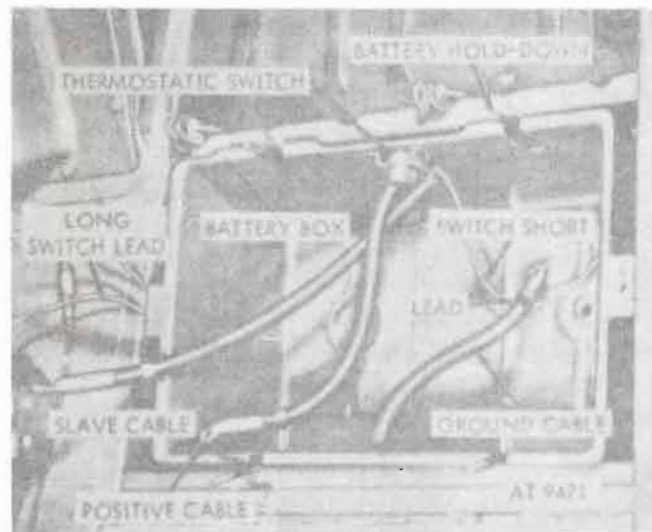
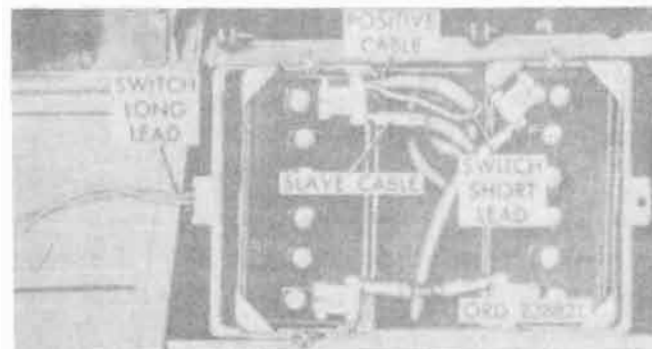

Figure 18-34. Battery box installed.
Figure 18-35. Batteries and cables installed.
(1) Position four battery holddown bolts in upward position.
(2) Insert ground cable through hole opposite thermostat of box assembly (fig. 18-34).
(3) Insert battery positive and slave cables (refer to paragraphs 18-10 through 18-13) through hole below thermostatic switch.
(4) Pull the two long thermostat leads out through hole below thermostat. Route leads around side of battery case toward inner end.
(5) Move box down into battery compartment by pulling cables as box is lowered. The four battery holddown bolts must be retained in upward position during this operation.
(6) Install batteries and clamps on battery post. Connect cables to battery post clamps (TM 9-2320-219-20). Connect short wire from circuit breaker to positive clamp (fig. 18-35).